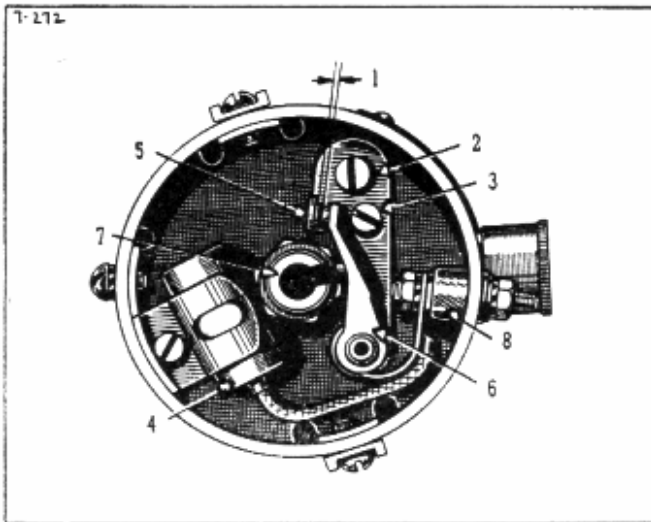

Fig. 53—Breaker Plate and Point Assembly
2. Remove the retainer clip (Fig. 53) and the terminal. The condenser can then be lifted out of the distributor body.